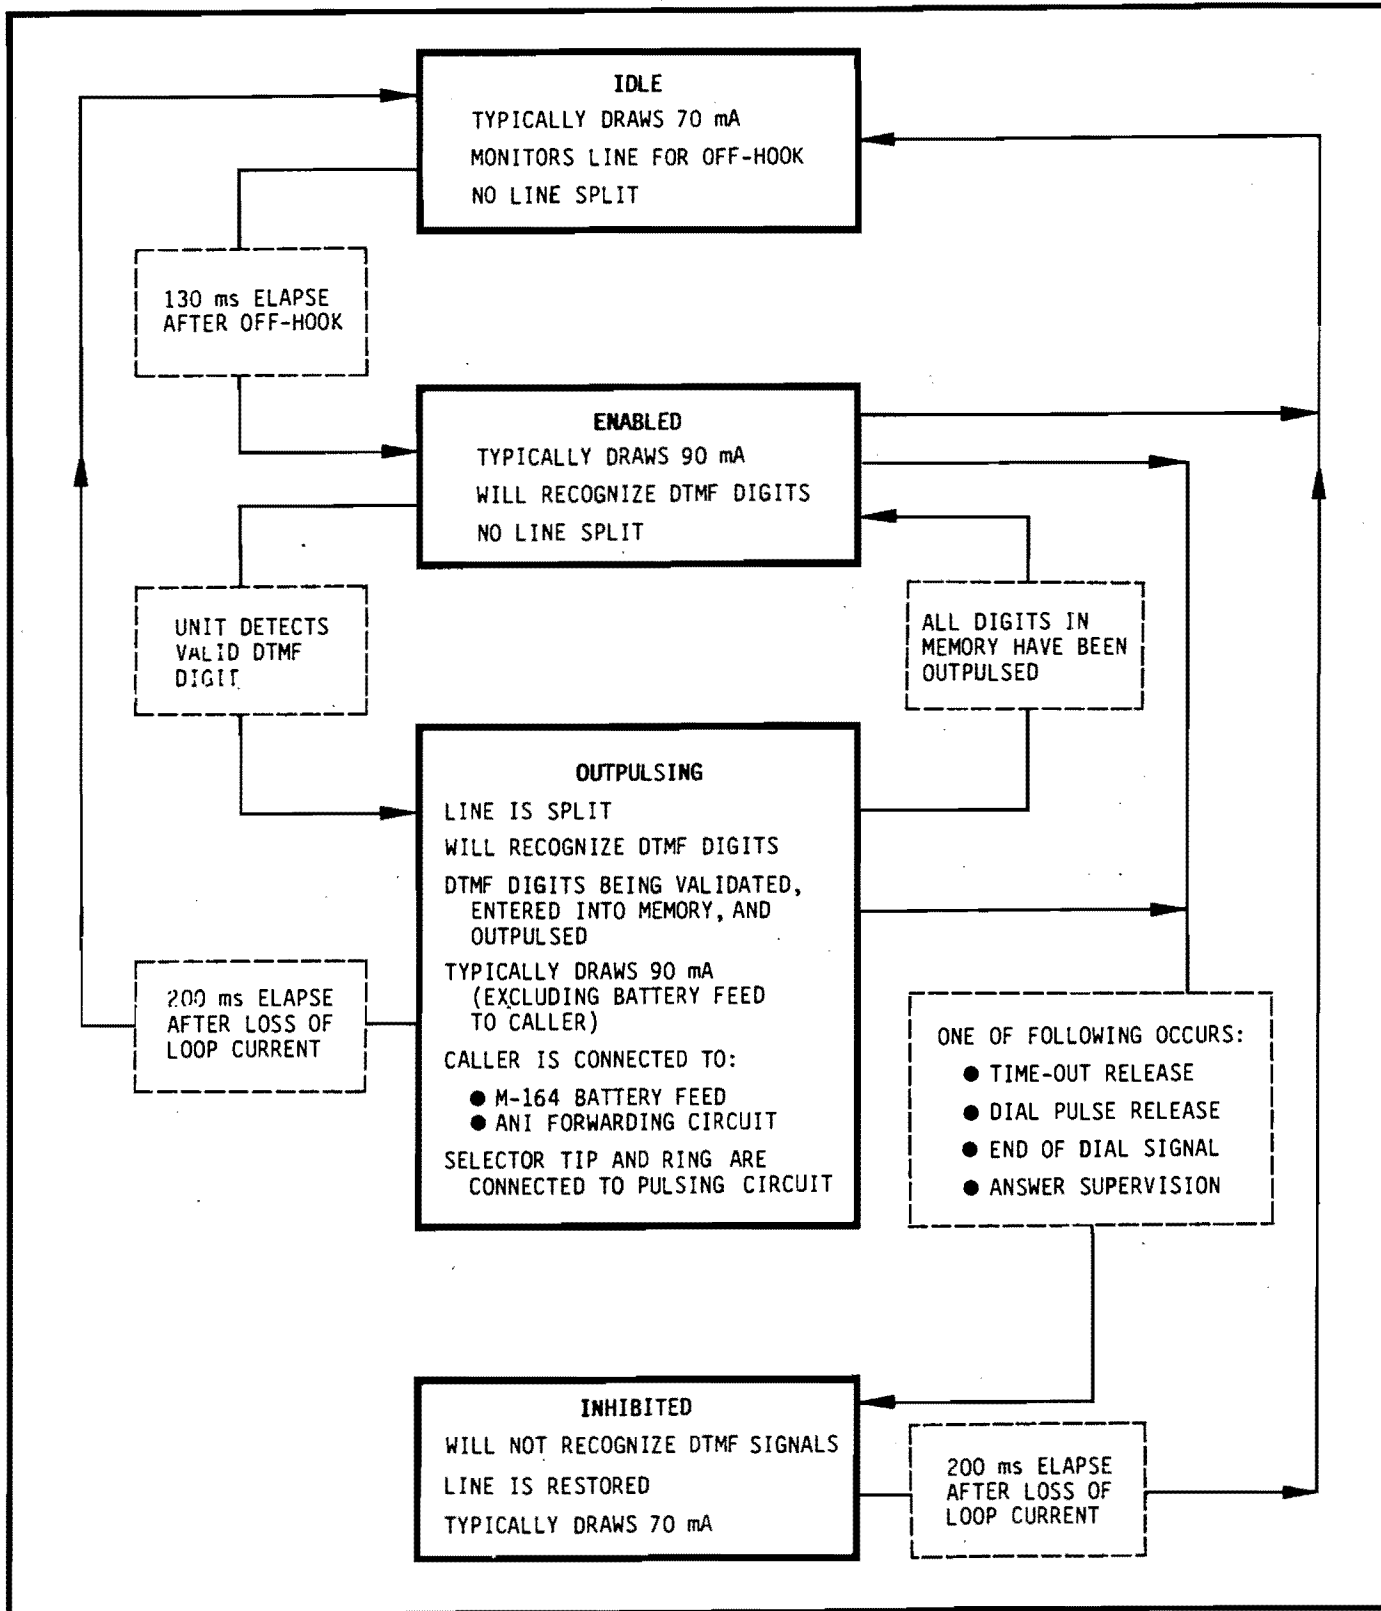

Figure 3 State Diagram
4.02 The M-164 is enabled by the flow of loop current which results when a caller goes off-hook. It remains enabled until the caller goes on-hook or one of the release features causes it to be inhibited. An inhibited M-164 is transparent to both rotary dialing and DTMF signaling. Once inhibited, a unit cannot be reenabled until the caller goes on-hook and then off-hook again to place another call. M-164 operational states are summarized in Figure 3.